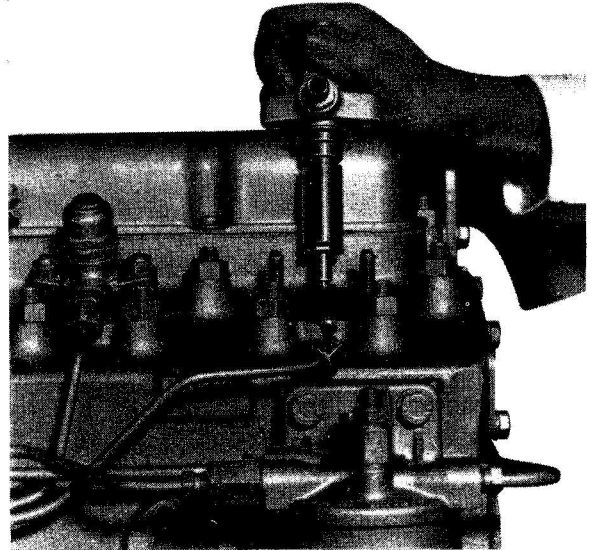

Fig. 2
8. Remove high pressure fuel pipes and atomisers (Fig. 2).